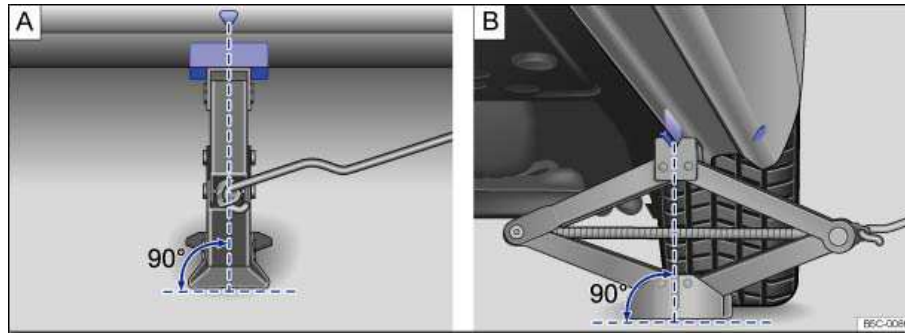

Fig. 162 Jack in position at the left rear lift point.
8. Position the jack so that its base is directly underneath the lift point ⇒ fig. 162, making sure that the entire base of the jack rests securely on the ground.